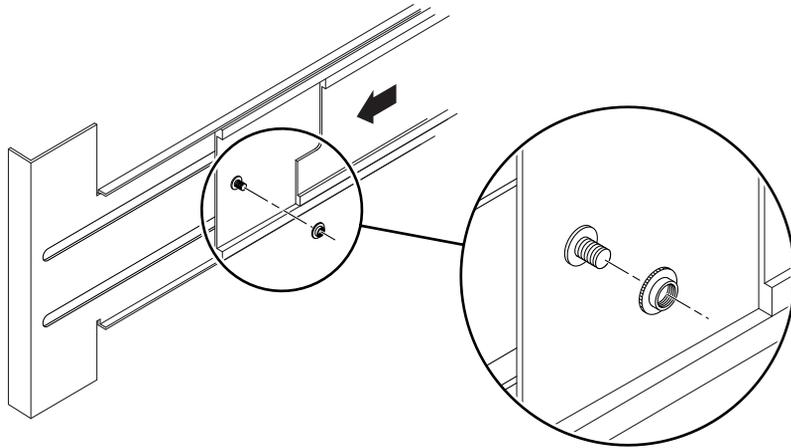

FIGURE 1-15 Inserting and Tightening the Spacers
4. From the rear of the server, insert and tighten the Sun supplied spacers onto the studs on each rail (FIGURE 1-15).